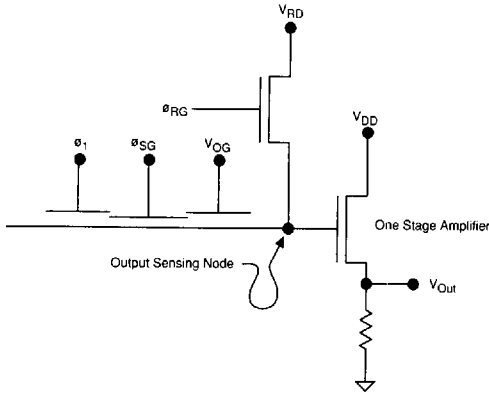

Figure 5. Output Structure
( $V_{OG}$ ) as shown in Figure 5. The summing gate (SG) can be clocked with one of the serial clock phases or with its own clock generator (see Figure 6 for summing gate timing). For example, two parallel lines of charge are additively transferred into the serial register, then the summing gate is pulsed low after the charge from two serial pixels has been transferred into the summing well. Thus, the resulting signal represents the sum of charges in four ( $2 \times 2$ ) contiguous pixels from the imaging section. It effectively reduces the  $512 \times 512$  device to a  $256 \times 256$  array and increases the pixel size by 4 times. Other variations of this technique can be useful for low-light level situations, i.e., scenes with low contrast, or a low signal-to-noise ratio. There is, of course, a loss in resolution which accompanies the gain in effective pixel size.
There is an on-chip amplifier which is located at the end of each extended serial shift register. The amplifier is a single-stage buried-channel transistor (Figure 5) designed to operate in the source-follower configuration with an off-chip load resistor ( $1K\Omega - 20K\Omega$ ). It has a bandwidth of approximately 5 MHz with a 10 pF load.